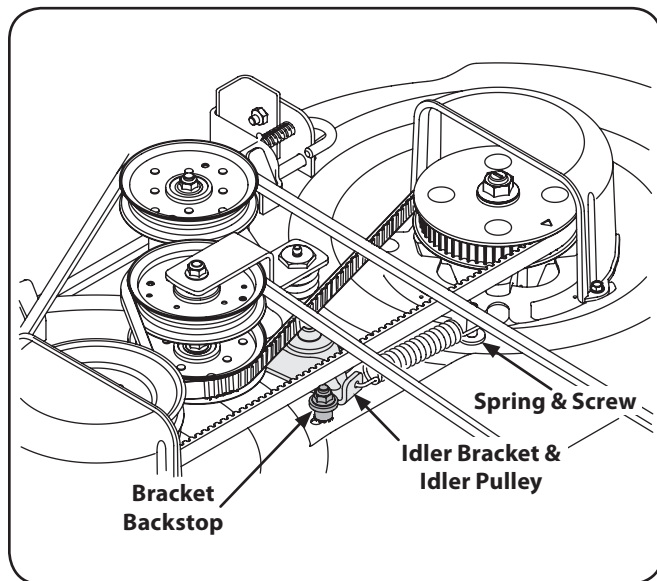

Figure 7-4
3. Remove the hex screw, flat washer, lock washer, shoulder spacer, and flange lock nut that make up the idler bracket backstop. NOTE: It may be necessary to clean the underside of the mowing deck to access the hex screw. Refer to Fig. 7-4.
4. Applying force to either the timing belt idler pulley or the timing belt idler bracket, pivot and hold the idler bracket against the spring tension just far enough to allow lifting the timing belt off and above the idler pulley. Carefully release the idler bracket. See Fig. 7-4.
6. Repeat the above procedure to remove the belt from the left hand spindle assembly timing pulley. Refer to Fig. 7-4.
7. Loop the new timing belt and maneuver the belt between the drive pulley on top of the right hand spindle assembly and the spindle cover. Lower the belt until loosely around the right hand timing pulley. Refer to Fig. 7-4.
- Remove the deck from the tractor. Remove the idler bracket backstop. Refer to Fig. 7-4.